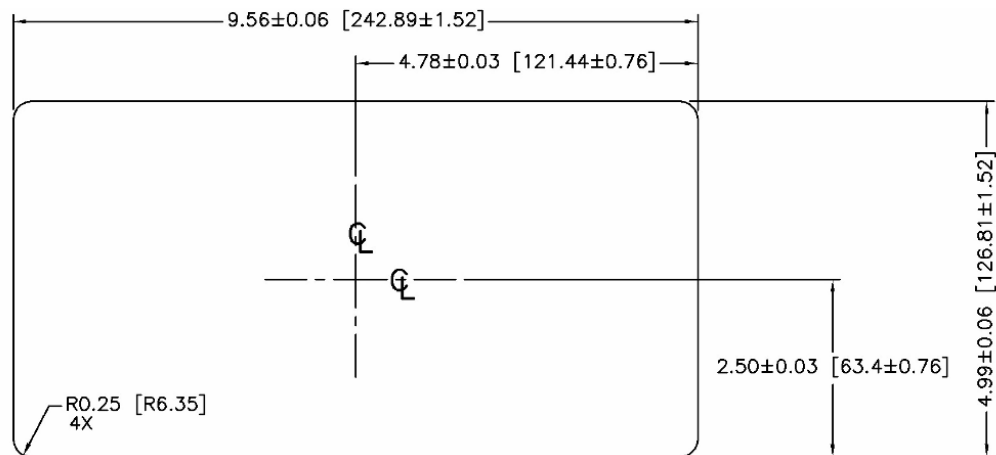

Figure 3-7: Panel Cutout Dimensions
4. The opening (or cut-out) in the control panel or industrial enclosure should be sized per the panel cutout dimensions shown in Figure 3-7. Dimensions are provided in inches and [millimeters].